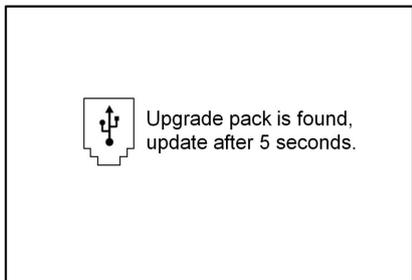
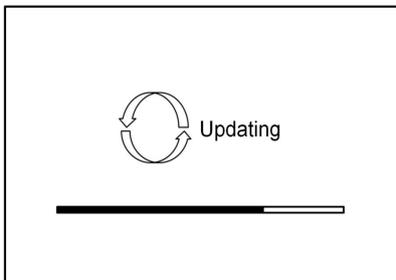
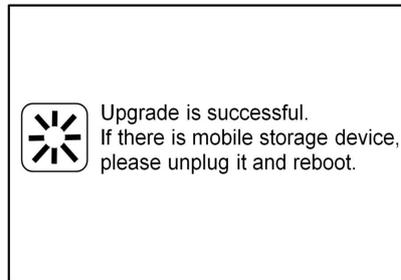

Figure 90
Figure 91
Figure 92
2) Turn on the power of the machine, the machine will automatically recognize the U disk information and display it for 5 seconds before the upgrade starts, as shown in Figure 90 below. The machine continues to upgrade, and the interface shown in Figure 91 appears below. After the upgrade of the standby device is completed, the interface shown in Figure 92 will appear. At this time, please unplug the U disk and restart the interface, so the software upgrade of machine is completed.